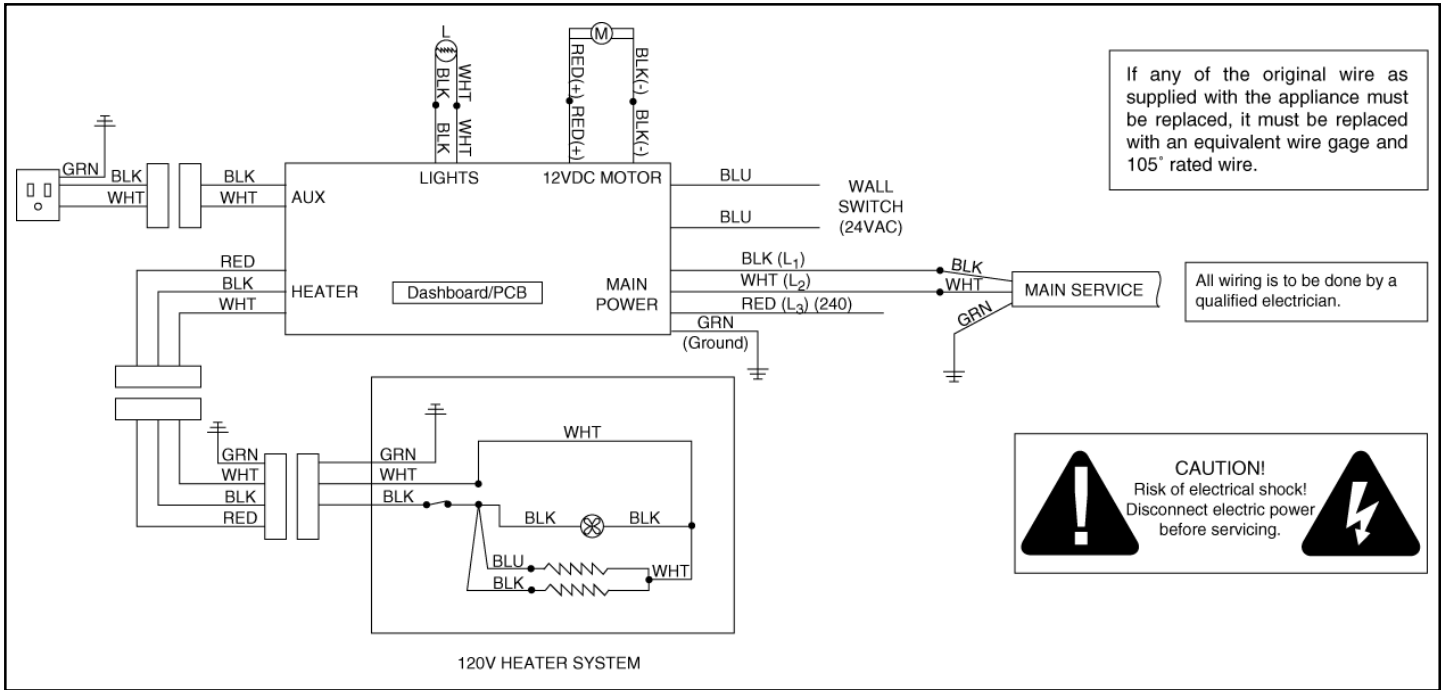

Figure 3 - 110V/120V Wiring Diagram
- 5) Connect black (L1) and white (L2) wires of the appliance to the black and white wires from the service. Connect green (ground) wire from appliance to the ground of the service. See Figure 3.